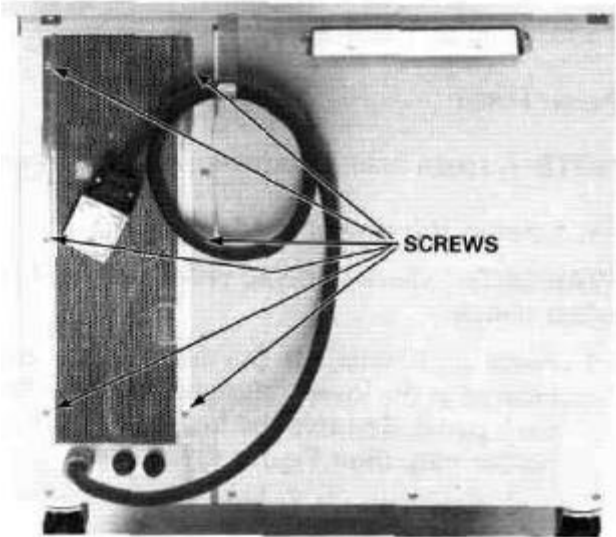

Figure 9
2. Using the phillips screwdriver, remove the rear access cover. (See Figure 9)